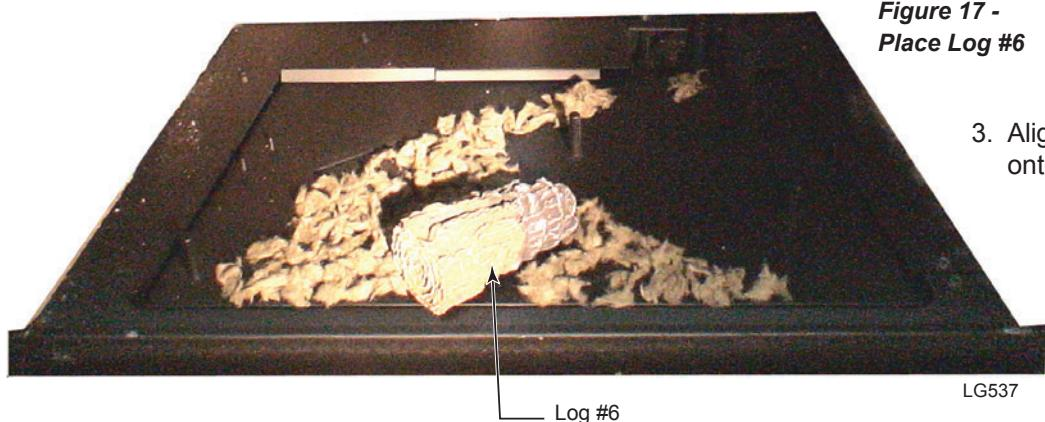

Figure 17 -
3. Align the two pin holes on Log #6 onto the burner. *Figure 17*